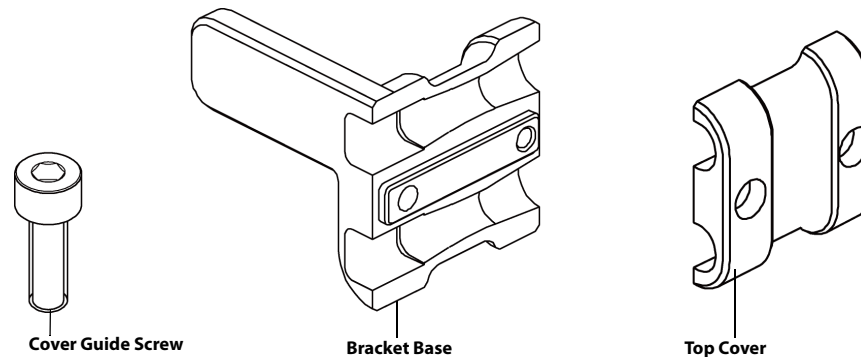

FIGURE 11-5 Camino Connection Cable Components
1. Locate the Camino connection cable components (as shown in FIGURE 11-5).